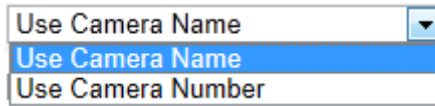

Figure 6-17 Child Directory
- ◆ **Child directory:** It is a sub-folder which can be created in the parent directory. The files will be saved in a sub-folder in FTP server. The name of folder can be defined as shown in following Figure 6-17.